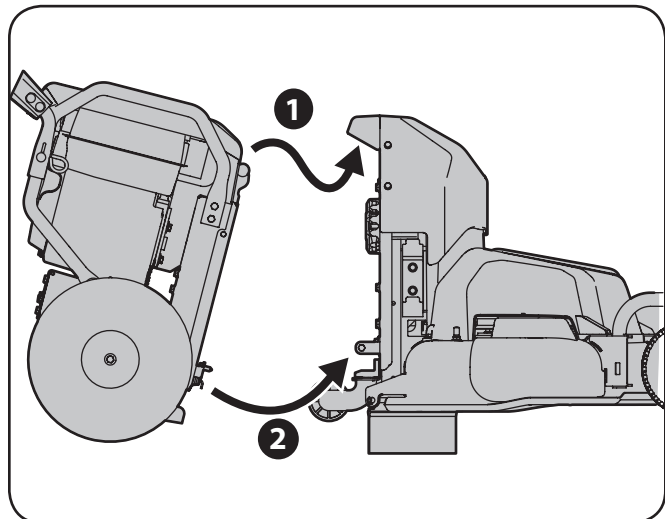

Figure 4-2
2. With the kickstand down, roll the power unit forward, engaging the top part of the mowing attachment with the handle mount provide on the power unit (1 of Figure 4-2).
3. Tip the FLEX™ Base Unit backwards to engage the two bottom connection points mounts (2).